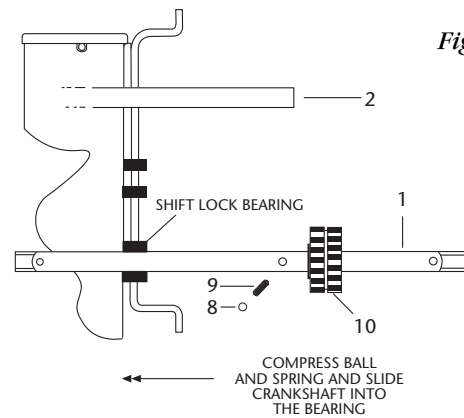

Figure 13
- While compressing the ball and spring into the hole, carefully slide the crankshaft into the shift lock bearing of the gearbox as shown in *Figure 13*. The ball and spring should be captured under the bearing surface. Push the crankshaft into the gearbox until it is engaged in low gear.